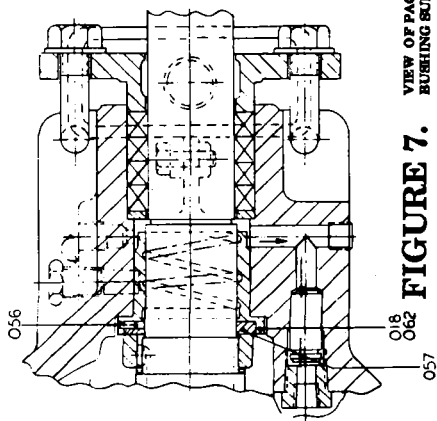

FIGURE 7. VIEW OF PACKING PUMP WITH BUSHING SUB ASSEMBLY
Figure 7 only: Removal of inboard cover (017) includes removal of bushing subassembly (062), insert bushing (057), stop pin (023), check valve (039), plug (041), bushing (040) and washer (024). Slide washer (024) from inboard cover (017). Remove stop pin (023) and slide bushing subassembly (062) and insert bushing (057) from inboard cover (017). No additional disassembly of inboard cover (017) is required unless replacement of check valve is required. Remove bushing (040) to remove check valve (039).
Figure 7 only: Follow paragraph above when installing bushing (018) into inboard cover (017). With bushing (018) and stop pin (023) properly installed, continue on as follows; slide insert bushing (057) into bushing assembly (062). Ensure insert bushing (057) pin slot is aligned to receive pin (056) when installed.